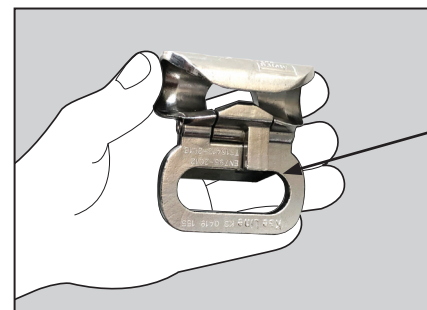

Figure 27 - KeeLine® II Traveller
- If using the KeeLine® II Traveller, it has been fitted to the rope and the push button been engaged so the traveller cannot be removed accidentally. See Figure 27.